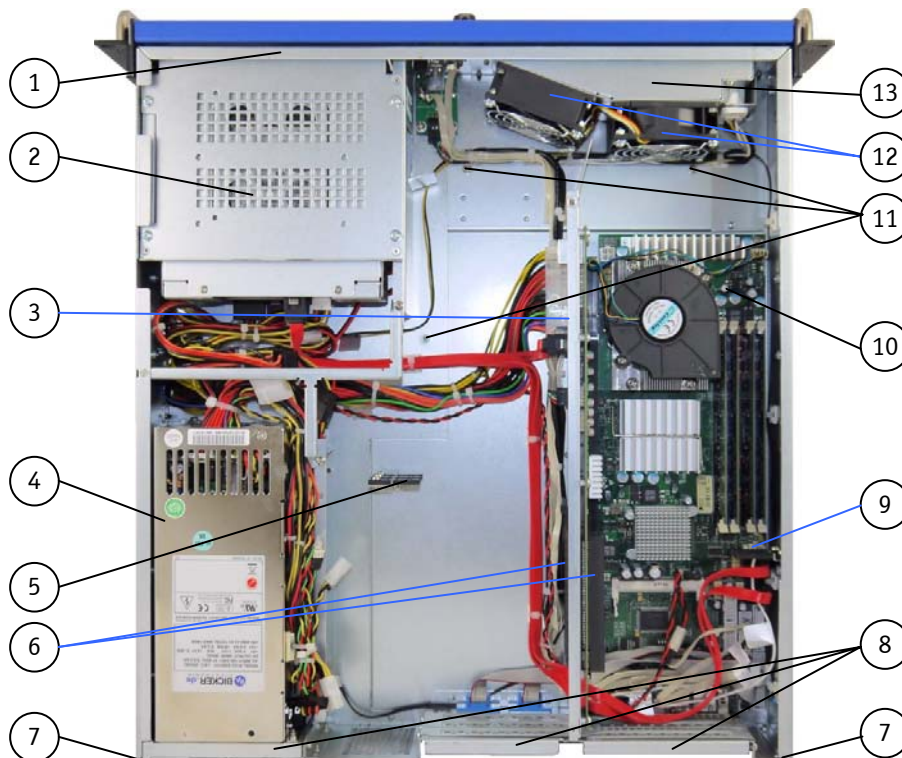
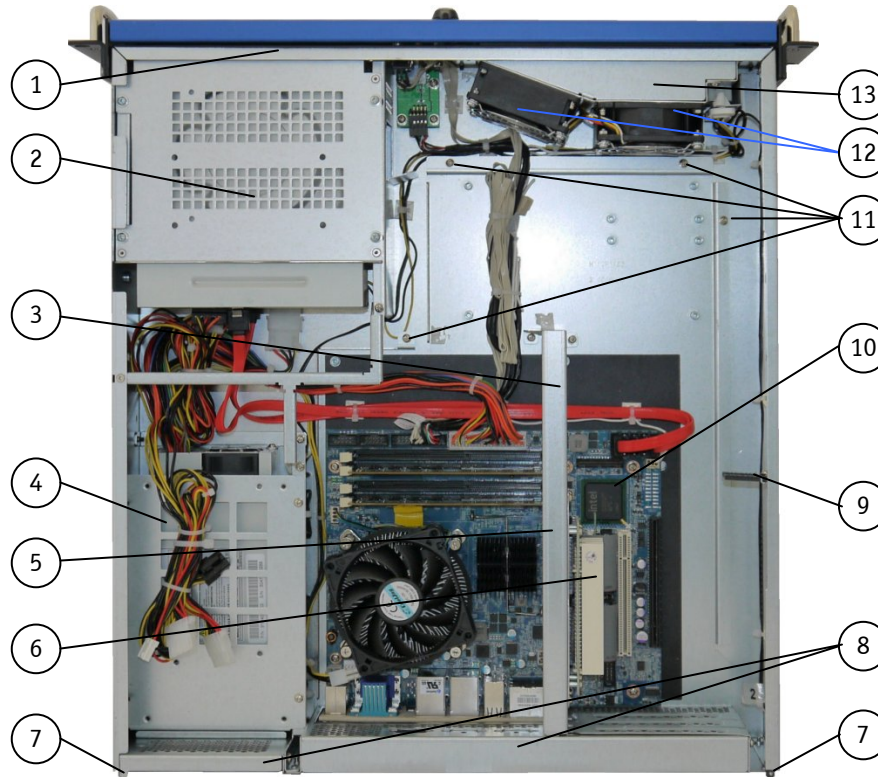
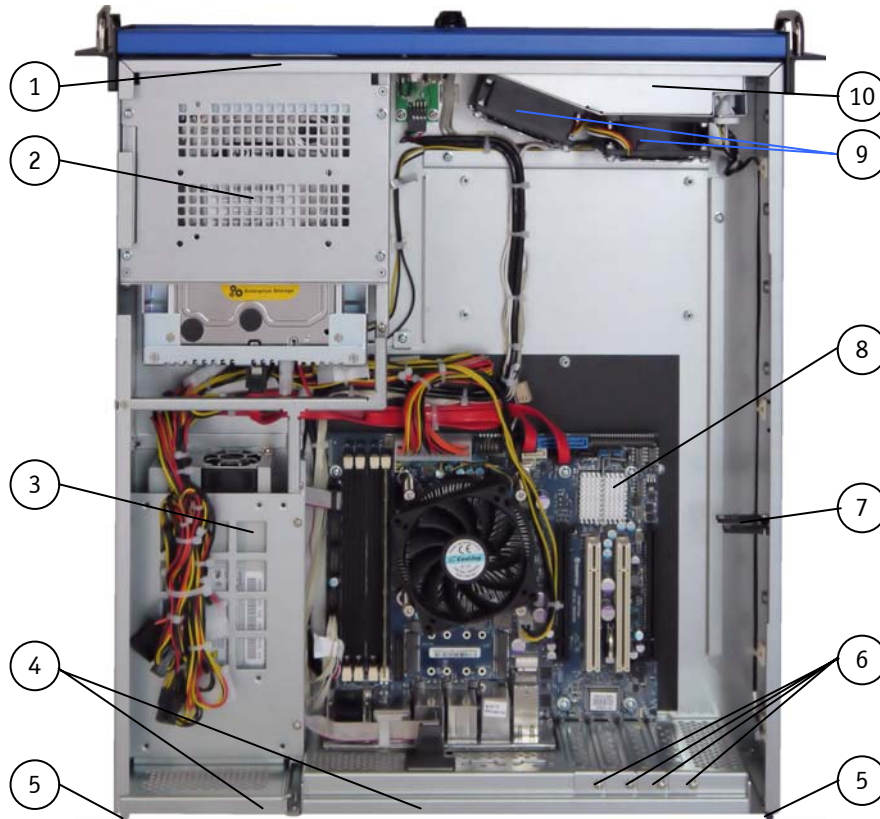
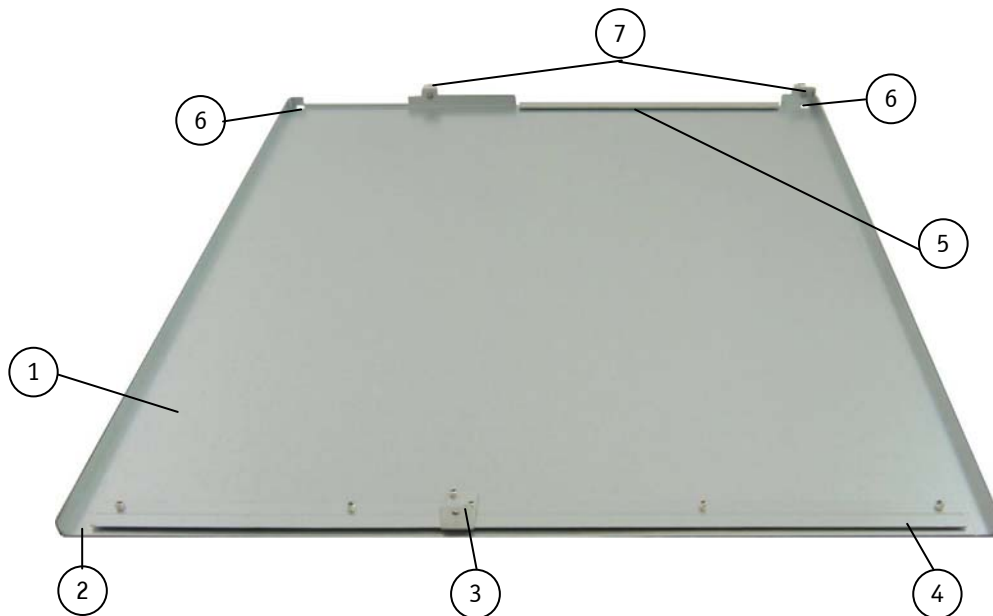

Fig. 28: KISS 2U V2 Configuration with PCI 760-SBC (Single Board Computer)
Fig. 29: KISS 2U V2 - Configuration with KTQ45/Flex motherboard
Fig. 30: KISS 2U V2 - Configuration with KTQ67/Flex motherboard (shown as a config. for low-profile expansion cards)
Fig. 31: Inside of the cover with fixing brackets
The cover will be fixed to the chassis using two fixing brackets at the front side of the cover (Fig. 31, pos.3 and pos. 4), two fixing brackets with captive knurled screws at the rear side of the cover (Fig. 31, pos.7) and the cover fastening screw (Fig. 9, pos. 6) at the front side of the KISS 2U V2 platform.
- ❑ At the front side: the fixing brackets (Fig. 31, pos. 4) are inserted properly into the corresponding retaining bracket of the chassis (Fig. 28, Fig. 29 and Fig. 30 pos. 1).
- ❑ At the rear side: the centring latches and the cover retaining plates (Fig. 28, Fig. 29, pos. 7 and 8, and Fig. 30 pos. 4 and 5) are properly inserted into the fixing bracket and centring slots of the cover (Fig. 31, pos.5 and 6).
The centering bracket (Fig. 31, pos. 3) and the front cover fastening screw Fig. 9, pos. 6) secure the cover on the front side. The fixing brackets with knurled screws (Fig. 31, pos. 7) secure the cover on the rear side.
3. Pull the cover out a little bit (Fig. 34) to release the cover centering and fixing brackets (Fig. 31, pos.3 and pos. 4) from the retaining plate of the chassis (see Fig. 28, Fig. 29, pos. 1) on the front side. At the same time the centering latches and the cover retaining plates (Fig. 28, Fig. 29, pos. 7 and 8) on the rear side will be removed from the fixing bracket and centering slots of the cover (Fig. 31, pos.5 and 6).
5. For KISS 2U V2 systems with SBC, unscrew the three screws (Fig. 28, pos. 11) and the four screws on the rear side (Fig. 13 and Fig. 14, pos. 4). Retain the screws for later use.
6. For KISS 2U V2 systems with motherboard (not in configuration for low-profile cards), unscrew the four screws (Fig. 29, pos. 11) and the four screws on the rear side (Fig. 17, pos. 4). Retain the screws for later use.
2. Unscrew the fastening screws of the slot bracket or card slot bracket (Fig. 30, pos. 6). Retain the screws for later use.